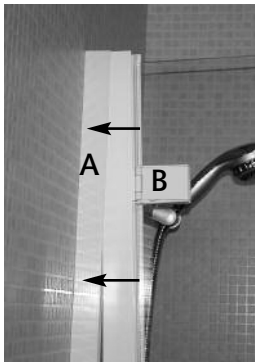
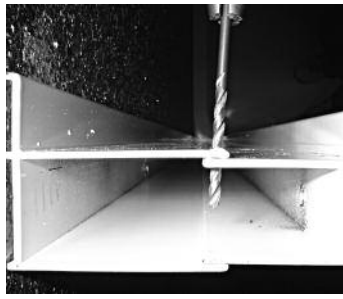

Figure a5
Figure a5i
⑤ Remove the cap from the bottom of the Hinged Bath Screen (B) and Slide the Hinged Bath Screen (B) inside the Wall Profile (A) (Figure A5). The Wall Profile must overlap the Hinged Bath Screen by at least 5mm (Figure a5i).